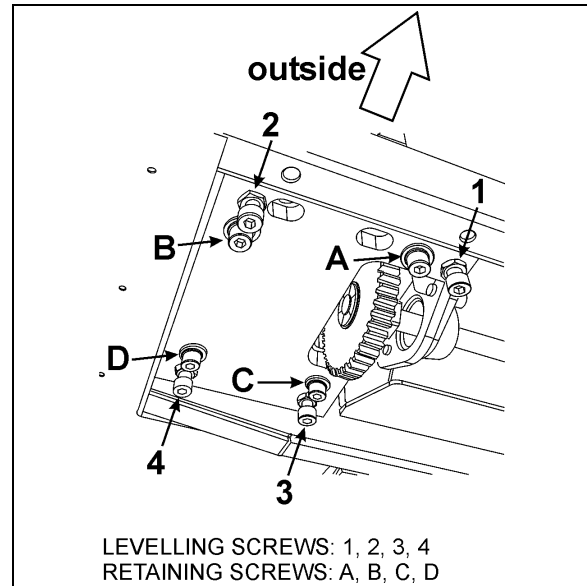

FIGURE 22 : SLIDE-OUT LEVELING
4. From the mechanism access panel, remove the retaining screws A, B, C & D (see figure 22).
Leveling of the slide-out is done by changing the linear bearing support plate height using the leveling screws 1, 2, 3, 4 (figure 22). When proper level is attained, the retaining screws A, B, C & D maintain the support plate seated on the leveling screws. Also, the retaining screws prevent the slide-out from tipping inside the vehicle when it is retracted.
the linear bearing support plate inclination using the leveling screws 1 & 2 as pivot and 3 to adjust the angle (figure 22).
2. From under the support plate, remove the acetal plastic block mounting screws (see the oblong holes on figure 22).